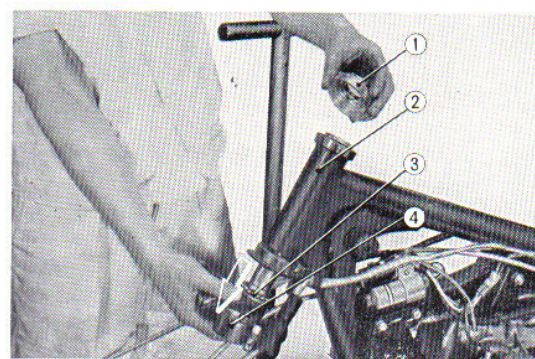

Fig. 4.25 Removing the steering stem
6. Remove the steering stem top thread and withdraw steering stem out of the head pipe, being careful not to drop the steel balls. (Fig. 4.25)